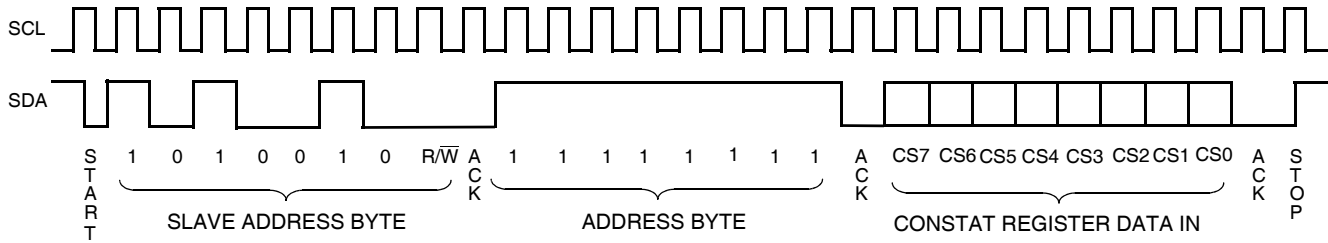

Figure 13. CONSTAT Register Write Command Sequence
Writes to the WEL bit do not cause an internal high voltage write cycle. Therefore, the device is ready for another operation immediately after a STOP condition is executed in the CONSTAT Write command sequence (See Figure 13).
- After a successful write operation to any bits of the CONSTAT register has been completed (See Figure 13).
The CONSTAT register is accessed using the Slave Address set to 1010010 (Refer to Figure 4.). Following the Slave Address Byte, access to the CONSTAT register requires an Address Byte which must be set to FFh. Only one data byte is allowed to be written for each CONSTAT register Write operation. The user must issue a STOP, after sending this byte to the register, to initiate the nonvolatile cycle that stores the DWLK, POR1 and POR0 bits. The X9523 will not ACKNOWLEDGE any data bytes written after the first byte is entered (Refer to Figure 13.).